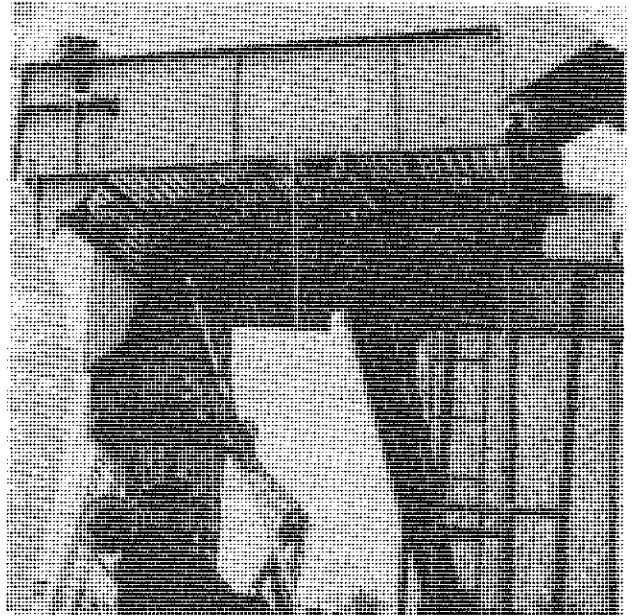

FIGURE 34 - ELEVATOR IN STORED POSITION
4. Swing elevator into position over the tank by using the rope (see figure 34).